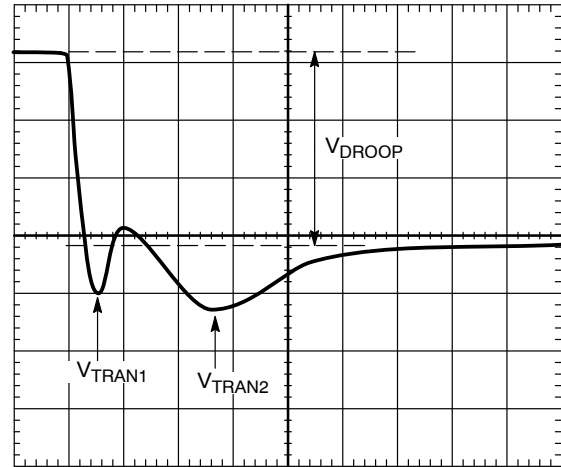

Figure 15. Transient Setting Waveform
18. With the dynamic load still set at the maximum step size, expand the scope time scale to either 2 $\mu\text{s}/\text{div}$ or 5 $\mu\text{s}/\text{div}$. The waveform can have two overshoots and one minor undershoot (see Figure 15). Here, V_{DROOP} is the final desired value.